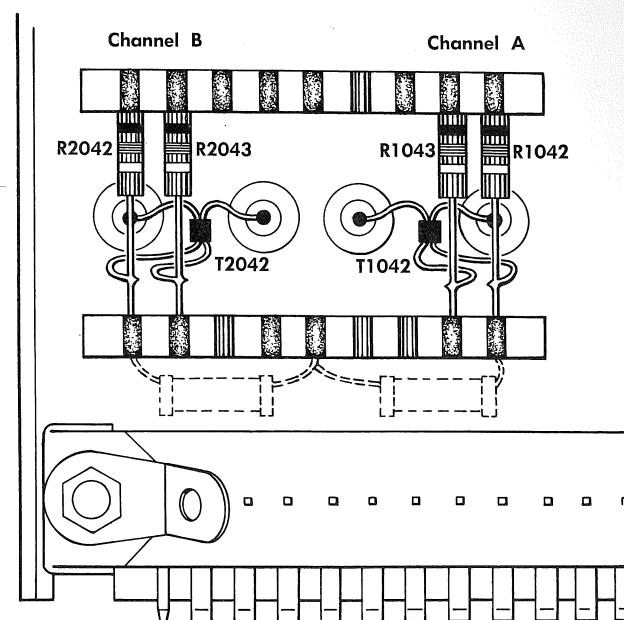

Fig. 5-11. Gate generator parts location for adjusting channel time coincidence.
- b. Remove the Type 4S3 Gate Generator subchassis and locate the parts displayed in Fig. 5-11.